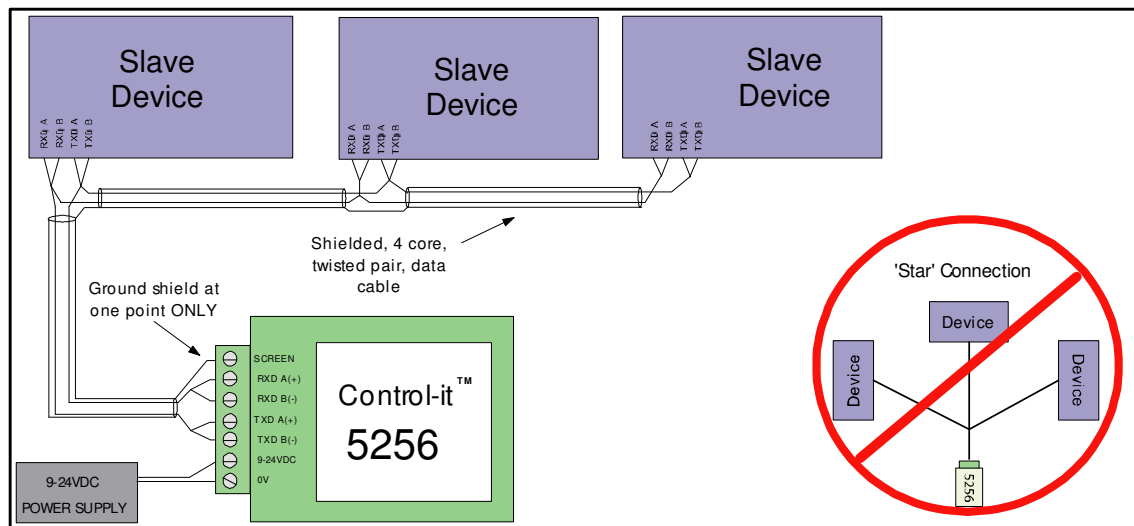

Figure 4 – Connection of a multi-drop network in 'Daisy-chain' configuration considerations.
1. Always connected devices in 'daisy-chain', as shown in figure 4, with each device connected in a row. Never connect devices in a 'star', as each branch will create unwanted reflections, leading to data errors.